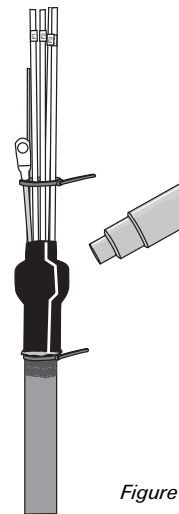
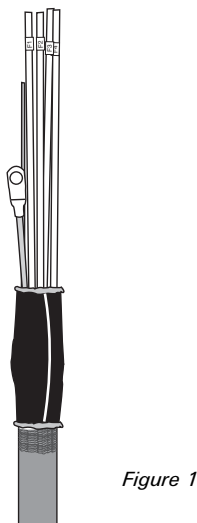

Figure 9
Figure 10
- Continue heating until the entire tube has shrunk, (Figure 9) then apply additional heat to the lump of adhesive in the middle of the tube. When the seal is complete, the tube should be smooth and the adhesive lump should be melted. (Figure 10) After the moisture-block has cooled, remove the tie wraps from the cable.